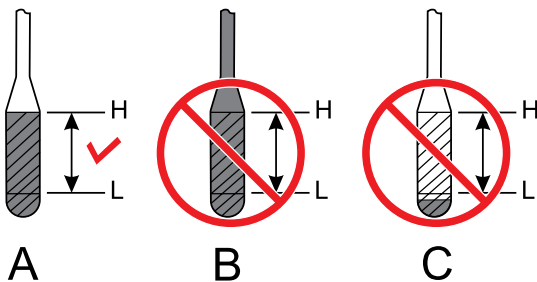

Figure 22. Engine Oil Dipstick
3. Reinsert the dipstick, then remove the dipstick from its holder. Check the oil level shown on the dipstick (Figure 22).